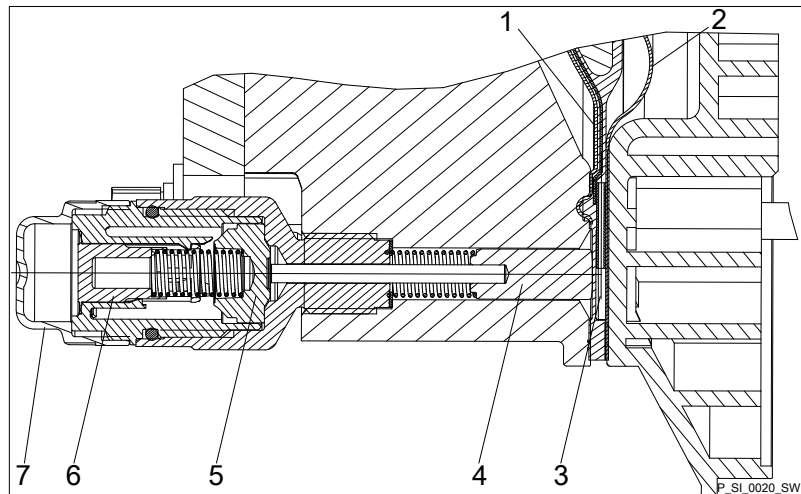

Fig. 23: Section through the Sigma diaphragm rupture warning system ("Visual rupture indicator" design)
2. ▶ If the piston of the diaphragm rupture sensor - see Fig. 23, item 4 - should have become dirty or damp, clean both it and the hole in which it runs.